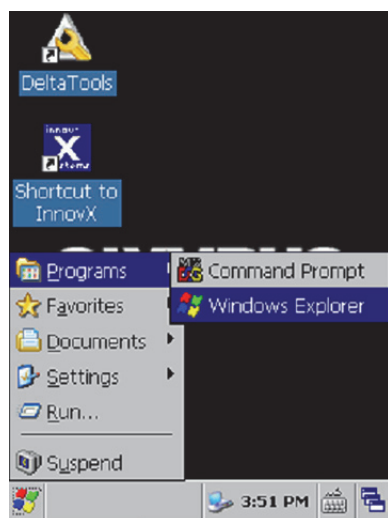

Figure G-15 DELTA Desktop: Programs > Windows Explorer
5. Tap the windows icon () at the bottom left of the DELTA desktop, and then tap **Programs > Windows Explorer** (see Figure G-15 on page 184).